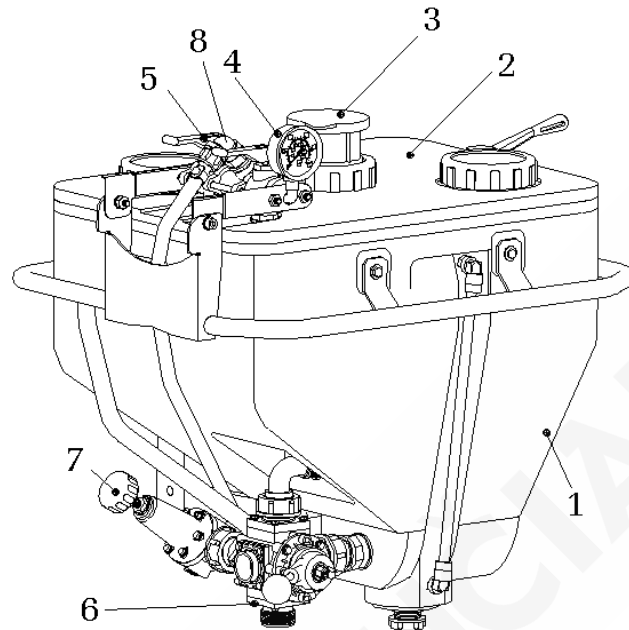

Figure 10 General view of the chemical induction hopper.
Induction hopper (Figure 10) is designed to pre-dilute chemicals before they are placed in the main tank sprayer. After filling the spray tank with water to 1/3 full, pour into the reservoir chemical induction hopper up to 5 kg (depending on the required concentration of the liquid) and open the valve lever control valve, giving liquid. During this time, should be closed valves Lever, off the liquid from the boom. After washing the chemical agent, completes the induction hopper tank with water the projected level. To shorten the watering time, preparations lumpy, you should thoroughly before pouring in the crush.
- Check and correct the induction hopper system pressure - pressure to determine the gauge (Fig. 10, step 4) (0.2 MPa) valve adjustment (Fig. 10, p 7),
- Move the lever ball valve (Fig. 10, p 6) in position B (Figure 11),
- Induction hopper fill to 1/4 volume (closed valve Figure 10, section 8),
- Move the lever ball valve (Fig. 10, p 6) in position A (Figure 11),
- Clean container in the middle of the chemical - including empty container to the filler opening to slide the nozzle washing so that the rinse nozzle was inside the container, at the same time open the valve (Fig. 10, p 5),
- At the end of pouring to enable the valve (Fig. 10, p 7) to flush the tank,
- After sucking close the valve (Fig. 10, p 7) and the transfer valve (Fig. 10, p 8) switch in position A (Figure 11),